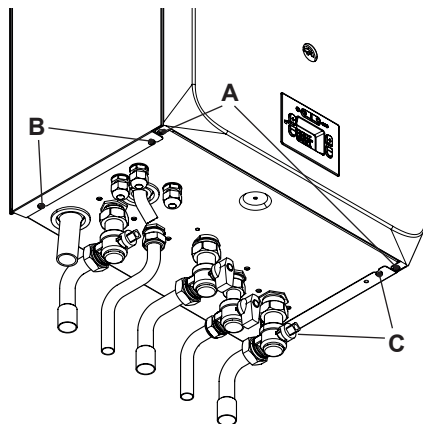
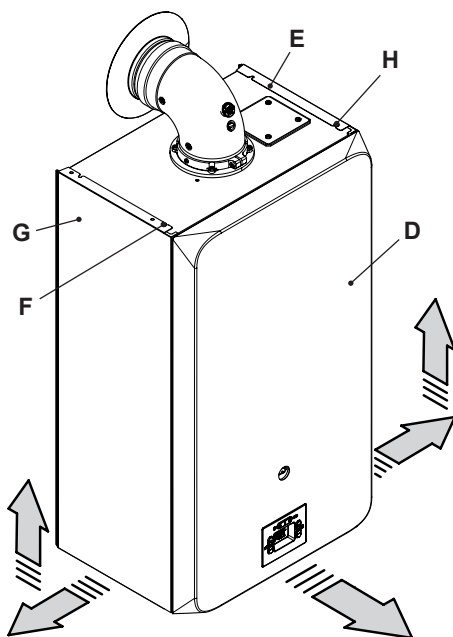

Fig. 10.4
Fig. 10.5
- Unscrew screws "A" and remove the front panel "D" by pulling it and pushing it towards the top so that it is freed from the top housings (Fig. 10.4 and Fig. 10.5).
- Loosen screws "B - F" and "C - H" in Fig. 10.4 and remove the two side panels "E" and "G" by pulling towards the outside.